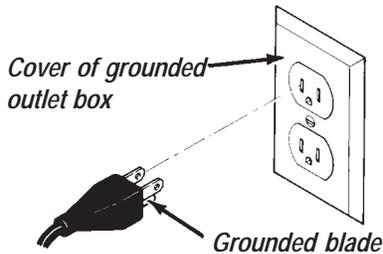

Figure A-1
- The Mark 7 plug has three prongs, as shown in Figure A-1. The receptacle should have three corresponding holes. Do not modify the plug. If it will not fit the receptacle, have the proper receptacle installed.